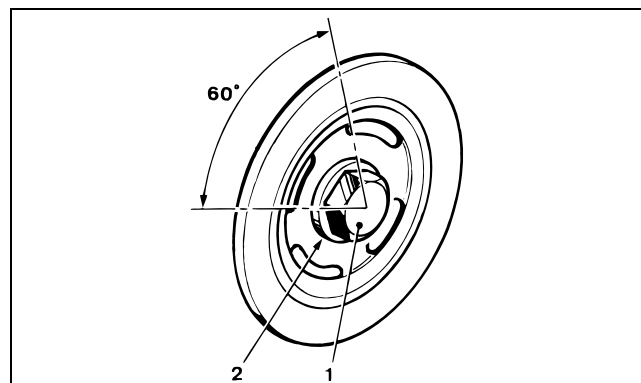

Figure 50
A. Clean with a brush and de-grease the threads of the bolt (Fig. 50, Item 1), the bearing faces of the washer (Item 2) and the head of the bolt (Item 1).